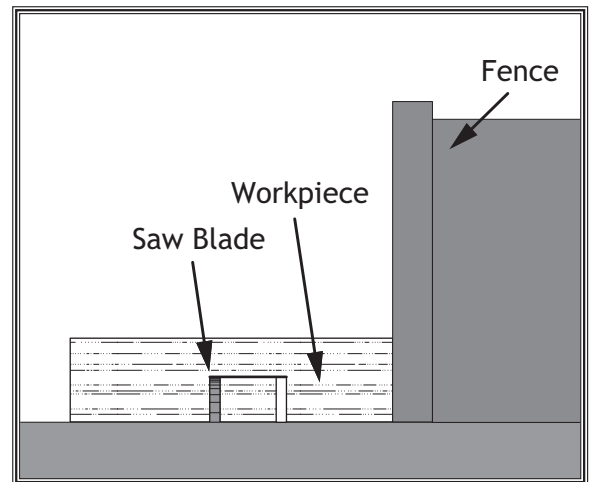

Figure 47. Second cut when making a dado with a standard ripping blade.
8. Re-adjust the fence so the blade is aligned with the other edge of the intended dado channel (**Figure 47**).